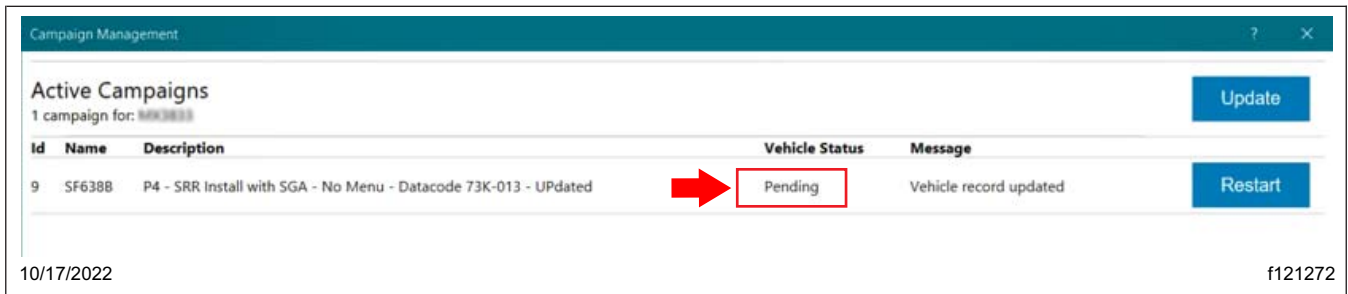

Fig. 12, Vehicle Status Changed to Pending
7.4 Wait for the 'Vehicle Status' to be displayed as 'Pending.' See Fig. 12.